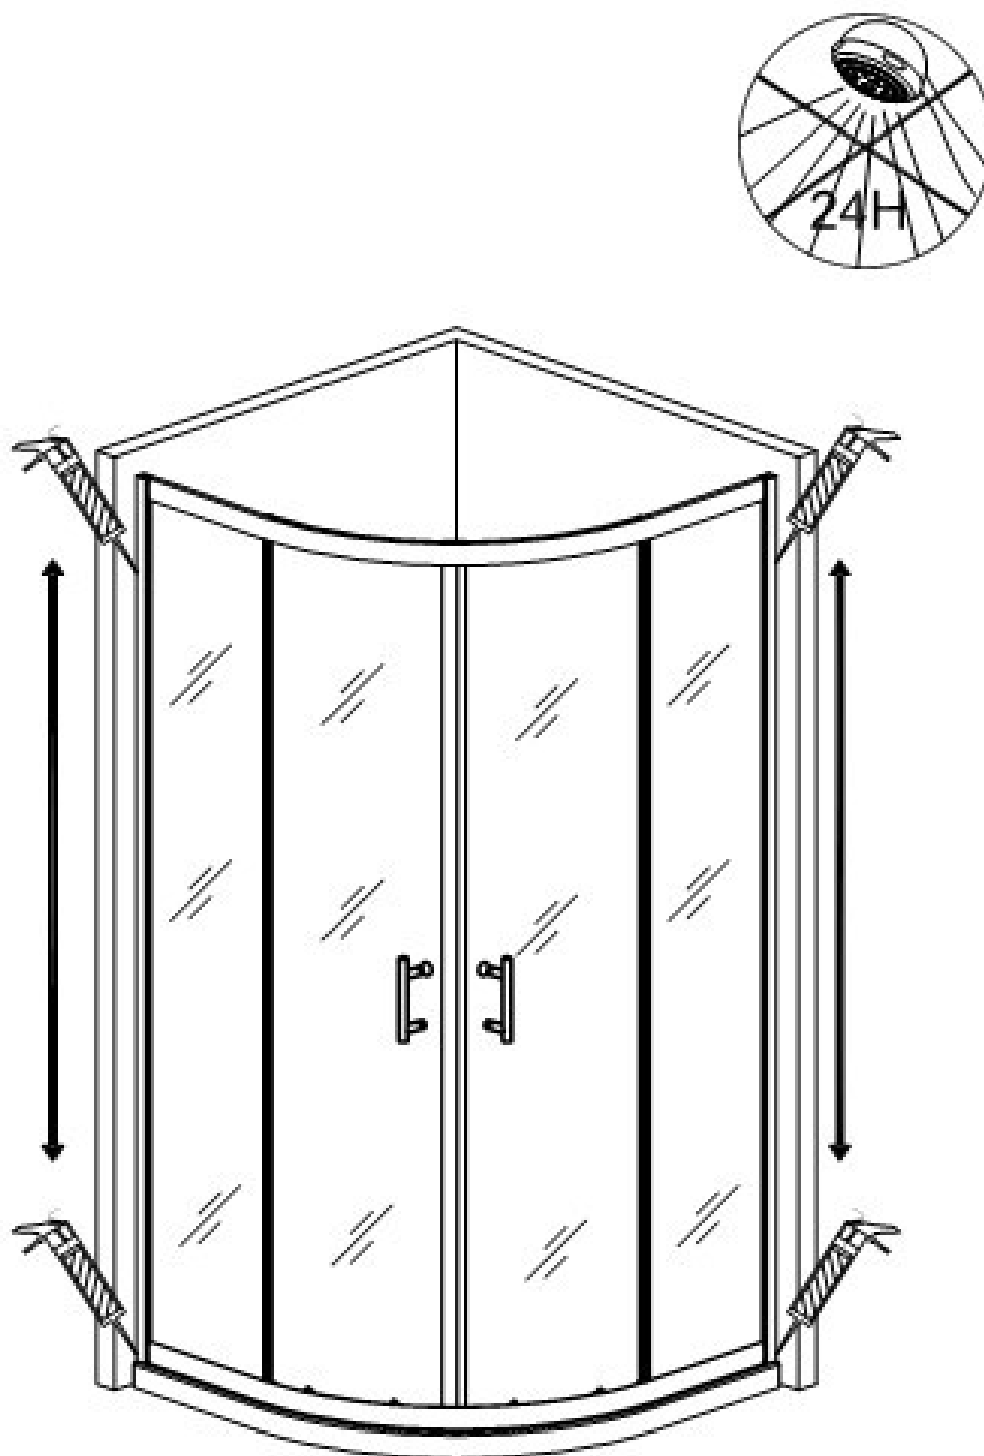

Figure 15
15. Finally, at all points connected to the wall, shower tray, floor and profiles, use silicone sealant only on the outside of the shower enclosure, as shown in figure 15.